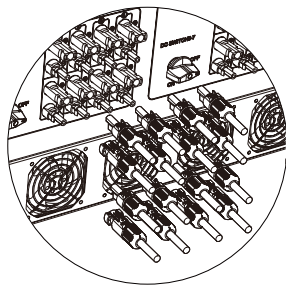

Figure 4-14
① Before assembling the DC connector, make sure that the cable polarity is correct.
② Use a multimeter to measure the voltage of the DC input string, verify the polarity of the DC input cable, and ensure that each string voltage is within 1000V.
3.Insert the positive and negative connectors into the inverter DC input terminals respectively, a click sound should be heard if the terminals are well connected, as shown in Figure 4-14: